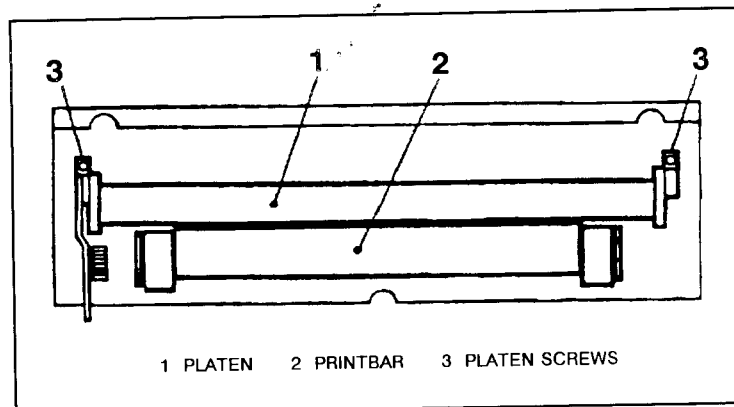

Figure 6-17. Platen Assembly
- d. Using a 3mm hexagonal driver ("Apex" driver or allen wrench), remove the two screws (one at each end of the platen) which secure the platen mounting feet to the print mechanism (see Figure 6-17).